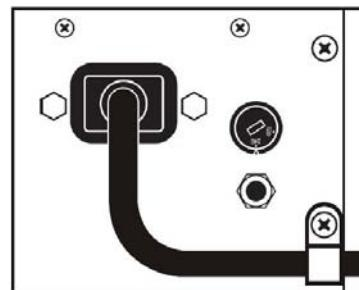

Figure 2-6
1. Confirm the monitor power switch is in off (0) position.
2. Connect the power cord to the power connector on the rear panel of the monitor and secure the power cord with the P Clamp (See Figure 2-6).
3. Verify that the AC voltage selector on the rear panel of the monitor is set to the correct country-specific voltage (See Figure 2-6).